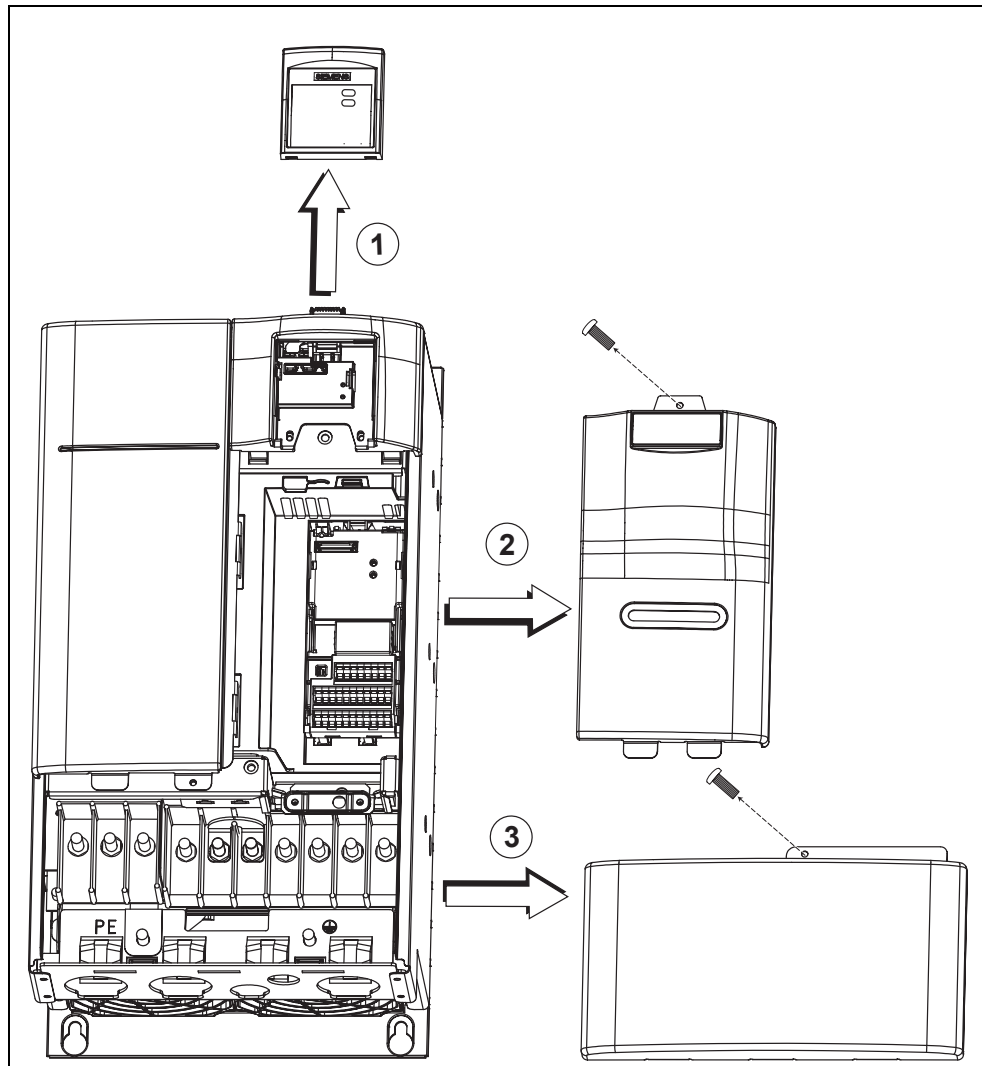

Fig. 2-2 Removing front covers (Frame Sizes D and E)
- Frame sizes D and E (Fig. 2-2)